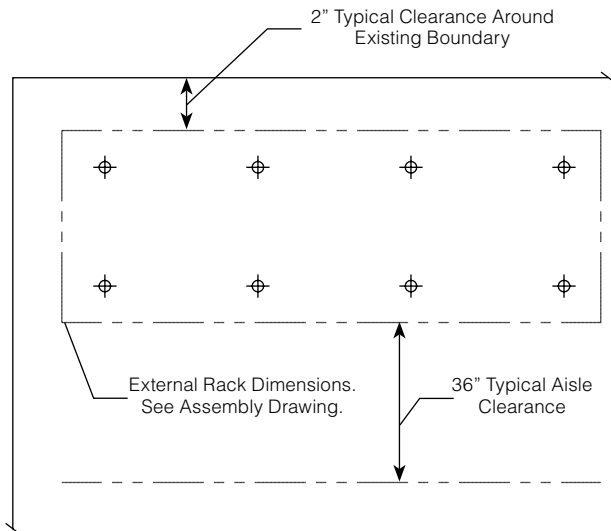

Figure 3. Rack Assembly Location and Anchor Bolt Pattern
- 3 Location of Rack Assembly:** When determining rack location and floor bolt pattern, use applicable drawings provided with rack shipment. Locate the rack's general position, considering boundary and aisle clearances. Locate floor mounting locations using provided drawings. See Figure 3.